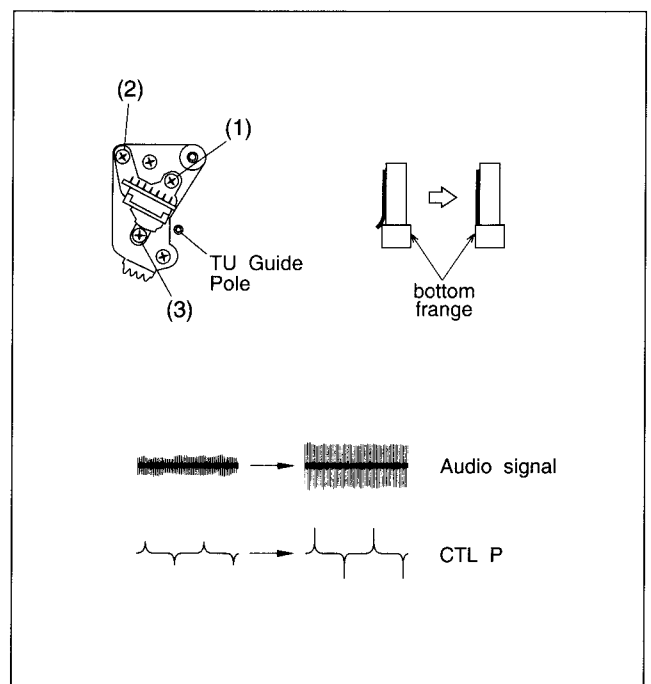

Fig. 1-7-5
- (1) Use spare tape and set for playback.
- (2) Turn screw (3) clockwise to where the tape curls just slightly at the TU guide pole bottom flange as shown in Fig.1-7-5.
- (3) Then slowly turn screw (3) counterclockwise to where the curling ceases.